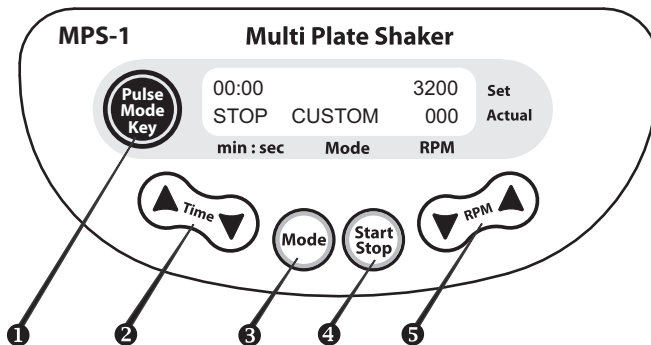

Fig. 2 Control panel
- 4.3. Using the **Mode** key (fig. 2/②) set the required working mode (CUSTOM, SOFT, MEDIUM, HARD, TUBE VORTEX). Operation in SOFT, MEDIUM, HARD, TUBE VORTEX modes differ from CUSTOM mode with a fixed, non-adjustable speed value (see specifications).
- 4.4. Set the required working time interval in minutes and seconds (the increment is 15 sec) using the **▲** and **▼ Time** keys (fig. 2/②). Pressing the key for more than 3 sec will make the values change faster. The set time is displayed in the upper line of the display.
- 4.5. Set the required speed (the increment is 100 rpm) in CUSTOM mode using the **▲** and **▼ RPM** keys (fig. 2/③). Pressing the key for more than 3 sec will make the values change faster. The set speed is displayed in the upper line of the display.
- 4.6. Press the **Start Stop** key (fig. 2/④). The platform will start motion (indication "RUN") and the timer indicator will start counting down the time interval in the upper line of the display.
- 4.11. Press the **Pulse Mode Key** (fig. 2/⑤). The ~~platform~~ will start the following cycle: acceleration – short mixing (duration 3 sec) – slowdown, (" " indication) and the timer indicator will start counting down the time interval in the upper line of the display.